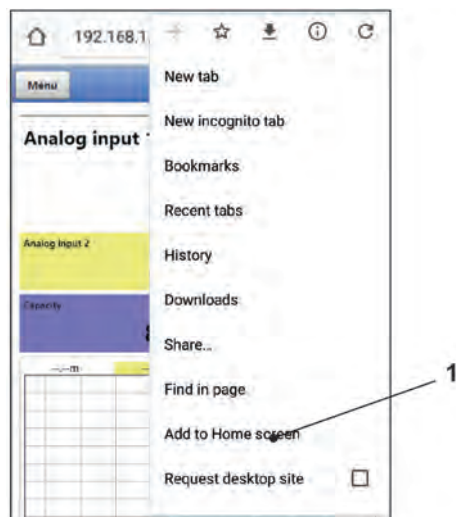

Fig. 30-7 Add to start screen
8. To set up a link on the "Home screen" (for direct access), tap the icon for more tabs (Fig. 30-6 Pos. 1) and settings and select "Add to start screen" (Fig. 30-7 Pos. 1).